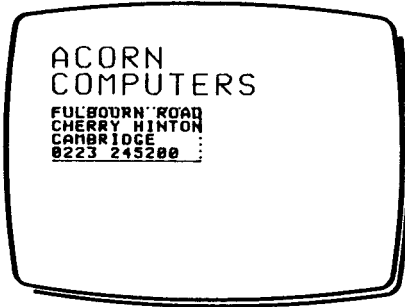

Fig 3
- 5 Press and release **T** to draw your address, as in Fig 3.